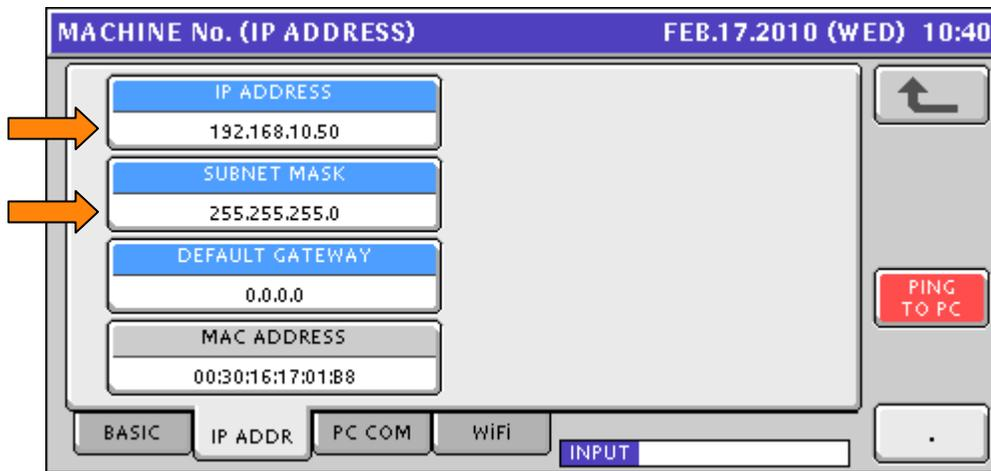

Figure 4.1. Enter IP Address, Subnet, and Gateway
6. Enter the scale's IP Address and press the **IP ADDRESS** field. See Figure 4.1.